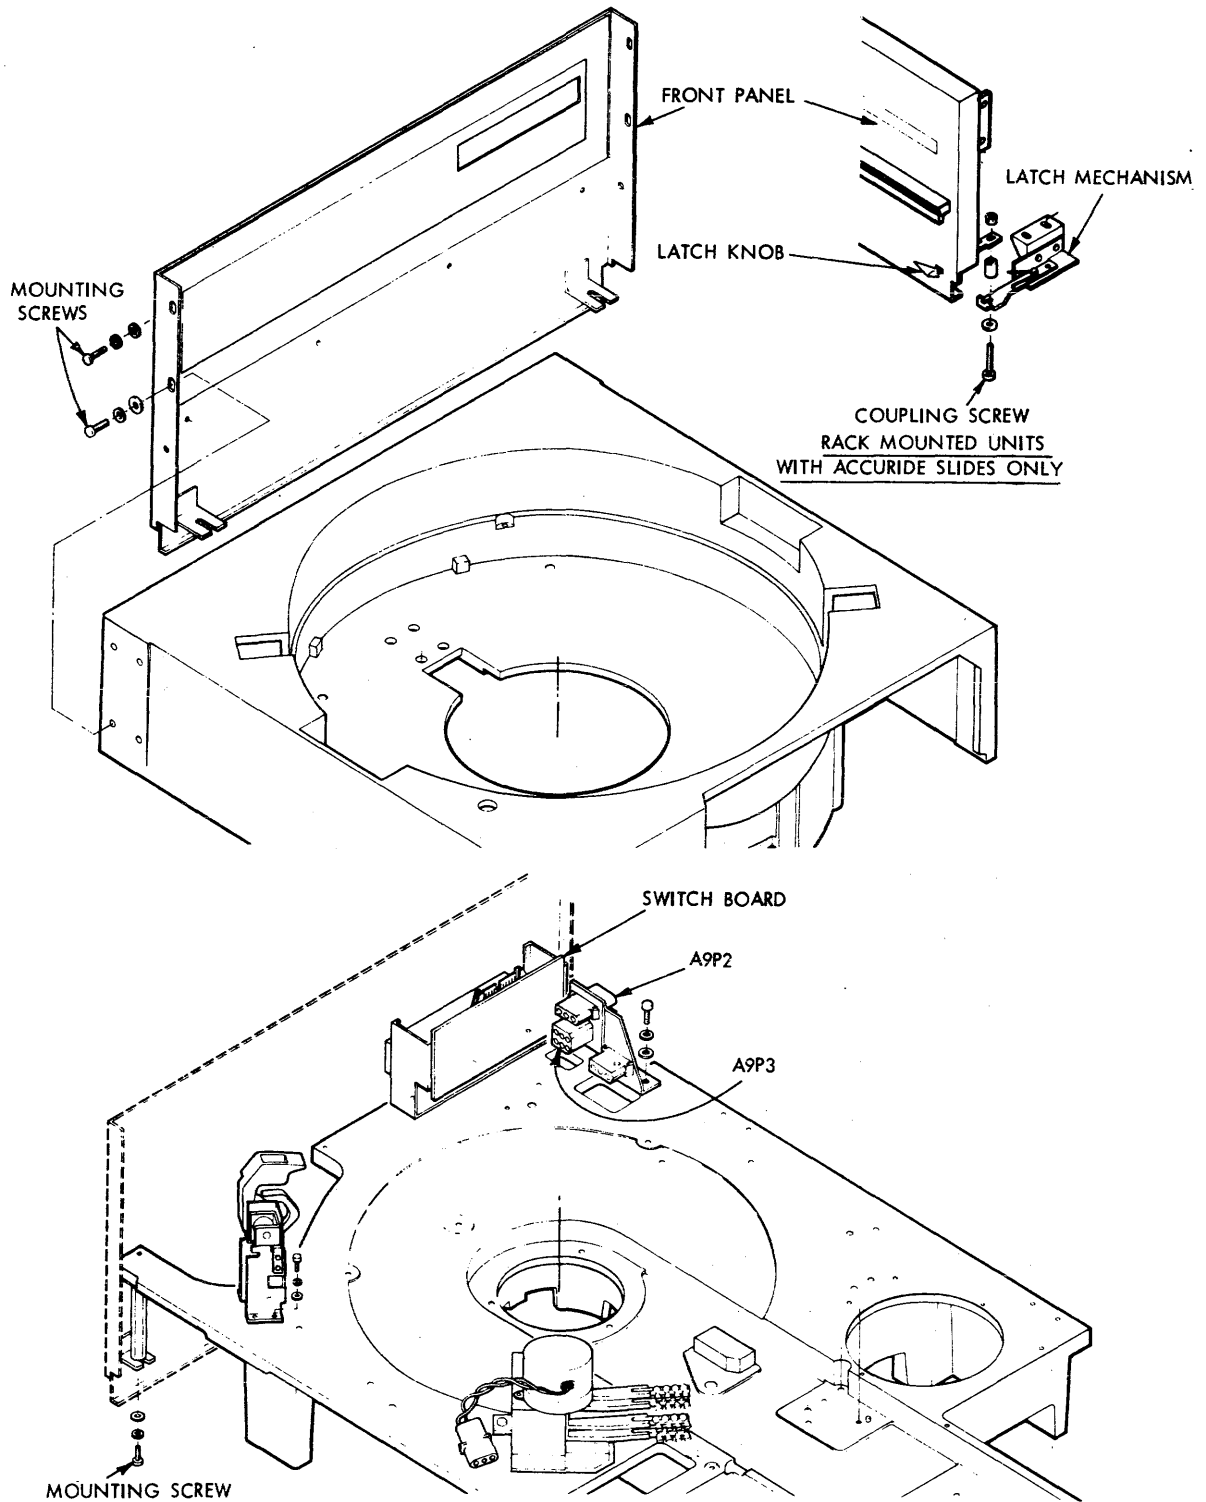

Figure 3-9. Front Panel Removal
7. On rackmounted units with Accuride slides, remove coupling screw securing latch knob to latch mechanism (see figure 3-9). On rackmounted units with Grant slides, remove latch knob by turning it counterclockwise.
9. Remove front panel by loosening two screws at bottom of panel and removing two screws on each side of panel (see figure 3-9).
11. Lift the cartridge receiver up until connector A9P2 can be unplugged (see figure 3-9). After A9P2 is unplugged, further remove cartridge receiver.
11. Lift the cartridge receiver up until connector A9P2 can be unplugged (see figure 3-9). After A9P2 is unplugged, remove cartridge receiver.